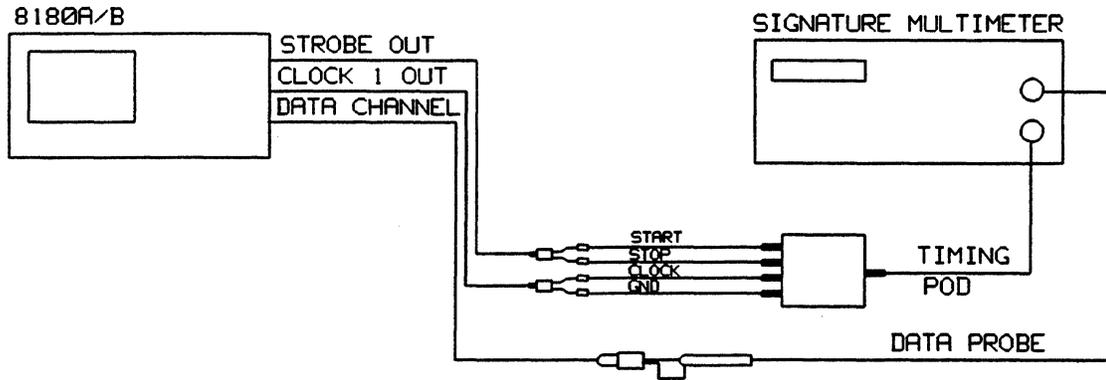

Figure 11-8. Test Setup for the 20 MHz Memory Test
11. Connect the equipment as shown in Figure 11-8 and press RUN.